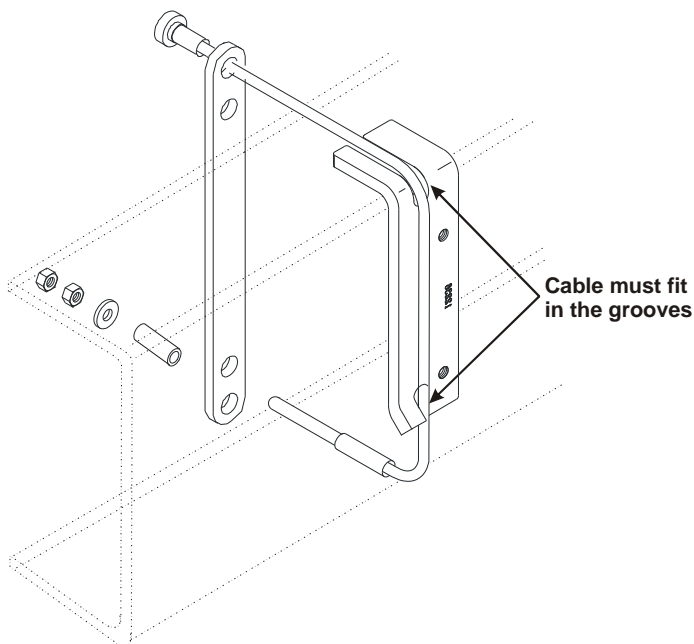

Figure 4.4
- ☐ Wrap the two tank cable straps around the tank strap mounts. Make sure that they fit in the upper and lower cut-outs of the tank strap mounts (Figure 4.4).